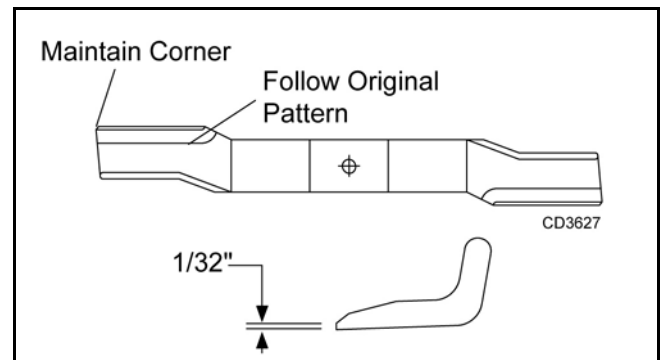

Figure 12
1. Remove cap screws (3) & lock nut (4), Figure 12.
- When installing blade, the lift of the blade must be toward the spindle blade housing as shown in Figure 12.
1. Place cap screws (3) through outer holes in blade and spindle shaft.
3. Place locknuts (4) on screws and torque to 84 lbs-ft.